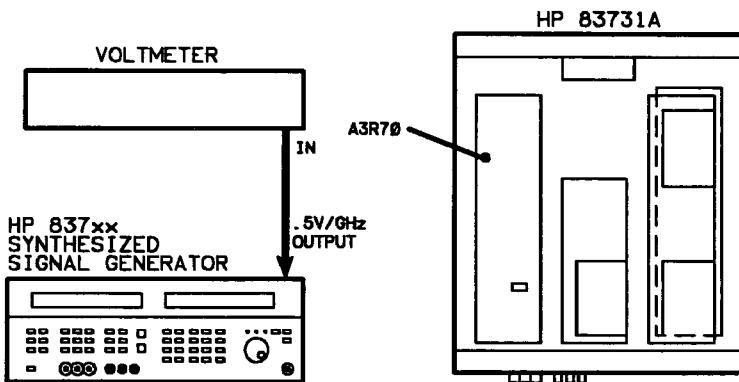

Figure 6-4. 0.5 V/GHz Output Equipment Setup
3. Connect the voltmeter to the 0.5 V/GHz output located on the synthesizer's rear panel as in Figure 6-4.